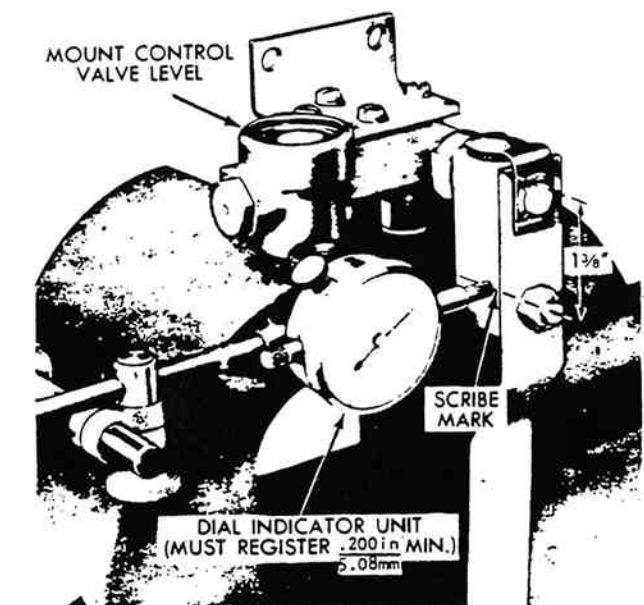
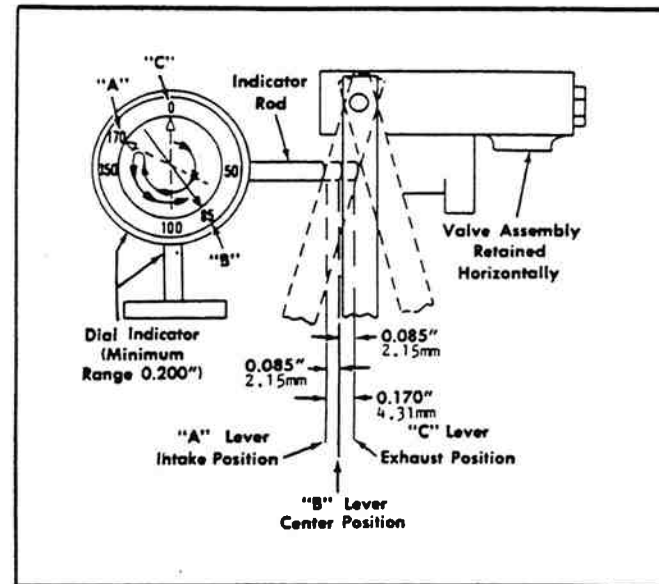

Figure 12-9. Dial Indicator Locations.
Figure 12-10. Locating Lever Center.
4. Referring to figure 12-9, scribe a line 1-3/8" (34.9 mm) from plug end of overtravel lever control body.
5. Place valve assembly in vise as shown in figure 12-9.
8. Locate dial indicator in position as shown in figure 12-9. Move overtravel lever to full air exhaust position — top of delay piston flush with top of bore — without overtraveling (position "C" Figure 12-10). Relocate indicator push rod to just contact 1-3/8" (34.9 mm) mark on control body and reset indicator dial to zero at this point (position C).
9. Move overtravel lever to full air intake position without overtraveling (position "A" Figure 12-10)(delay piston at bottom of bore). Take indicator reading which may vary 0.60" (1.52 mm - 4.82 mm).